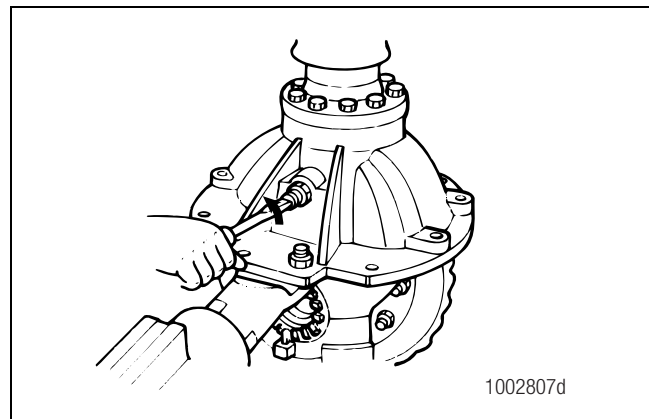
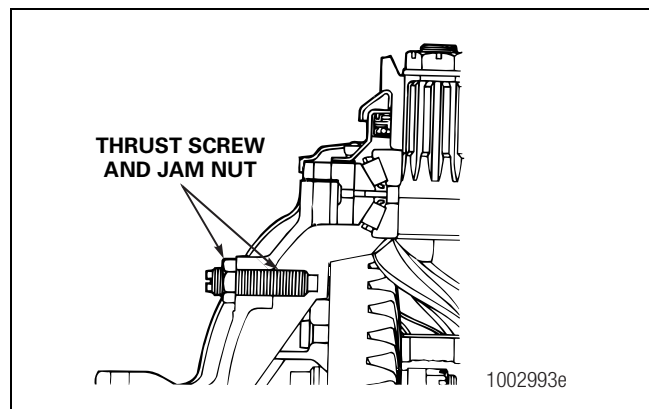

Figure 3.9
Figure 3.10
2. Remove the thrust screw and jam nut, if equipped, from the differential carrier. Figure 3.9 and Figure 3.10.